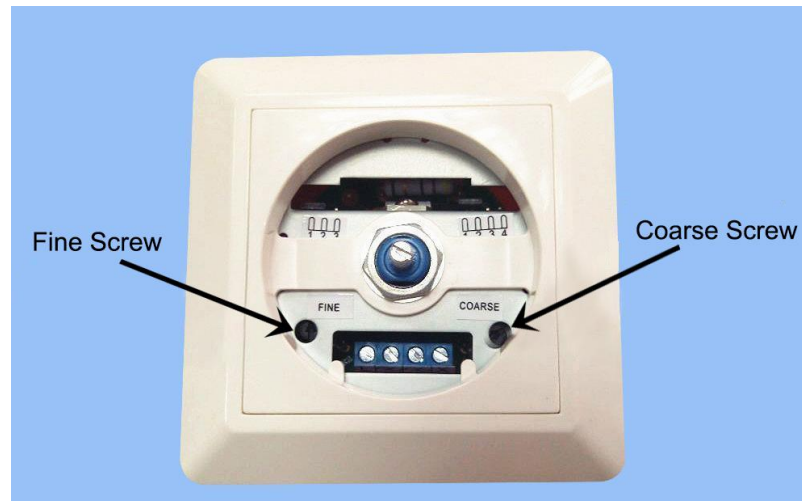

Fig. 6 Performance Optimization of BRT-D204
For some LED lights, dimming range may be limited and there may be flickering. The dimmer can be tuned to achieve the best performance. Performance optimization is realized by adjusting the two tuning screws behind the middle plate, as shown in Fig. 6.
2. Remove the knob and the middle plate to have access to the two tuning screws as shown in Fig. 6; and
1. If there is flickering, remove the knob and the middle plate to have access to the two tuning screws as shown in Fig. 6;